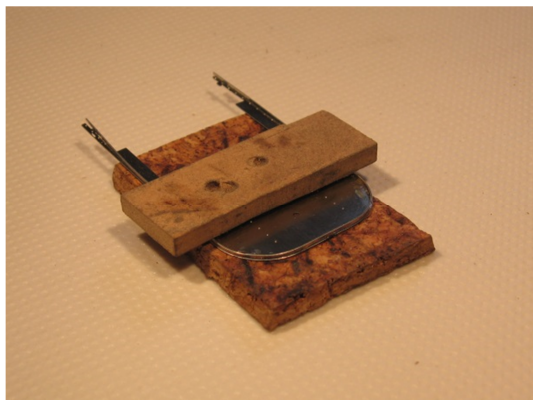

Fig. 1
5. Start to fit the valance (116) from the centre of the apron,
13. filling in the slots with a little solder, as **it will be impossible** to finish once attached to the tank side. Fig 1 & 2.